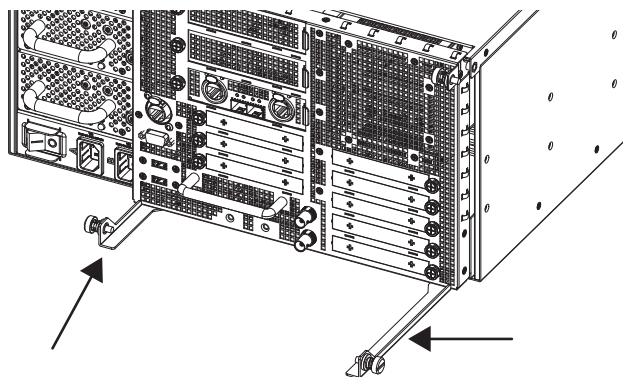

Figure 4. Latches fully extended
- 5 Simultaneously pull the two bottom thumbscrews outward so the latches they are attached to are fully extended, as shown in Figure 4.